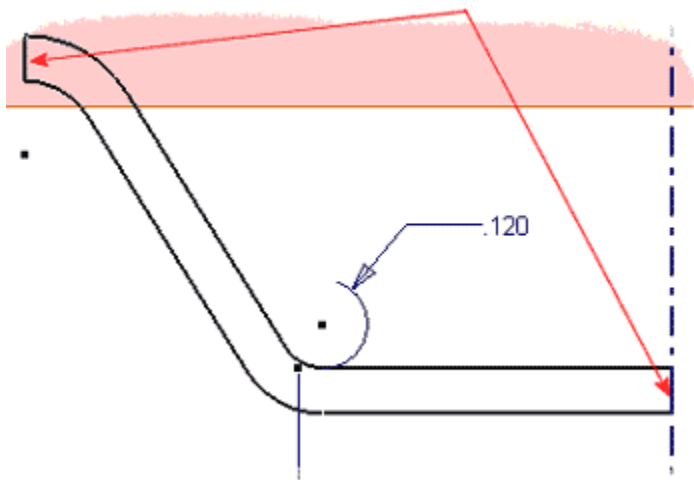

Figure 13: Completed sketch geometry.
11. Use the Offset tool  to copy the current sketch entities, and then add vertical lines to close the open ends of the sketch as shown in Figure 13.